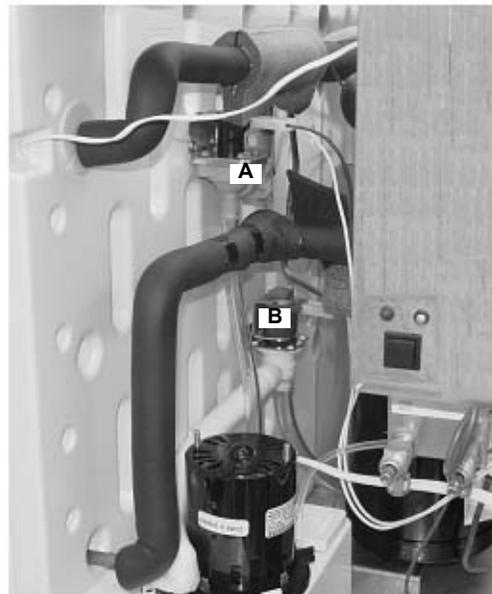

Figure 48.
51. Connect the water fill valve harness (A) (black & white leads) and the water dump valve harness (B) (yellow and white leads) (Figure 48).